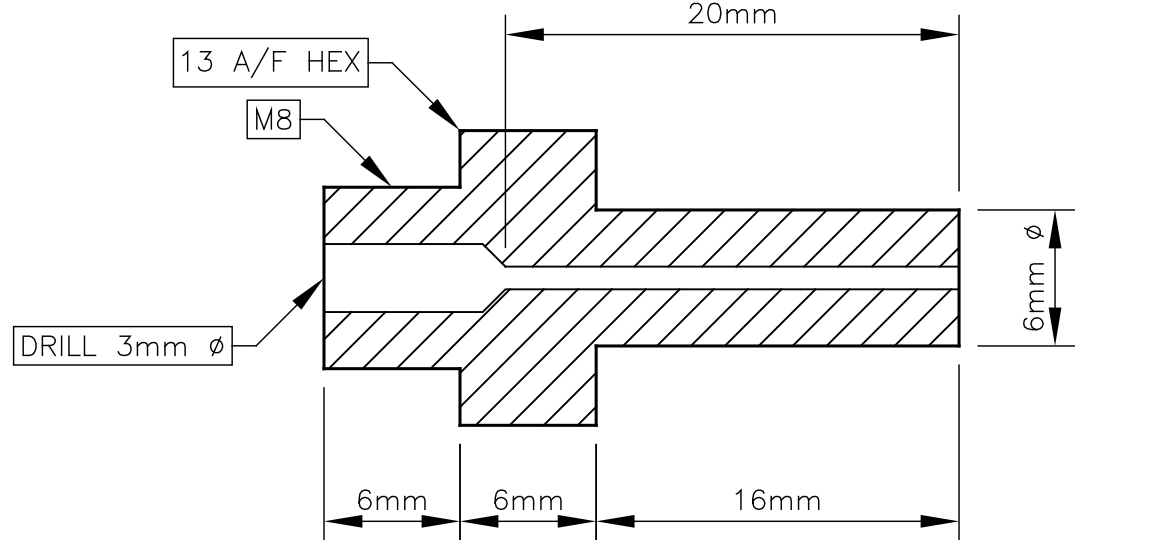

FIGURE 14 - DRAWING OF AUTOMATIC WATER DRAIN (SCALE: 3:1)
- SECTIONS WHERE WATER MIGHT COLLECT ARE TO BE AVOIDED, BUT IF THEY CANNOT BE AVOIDED, AN AUTOMATIC WATER DRAIN MUST BE FITTED AT THE BOTTOM OF THE SECTION. SEE (FIG. 14 & 15) FOR DIMENSIONS AND THE METHOD OF FITTING TO THE QUENCH PIPE.